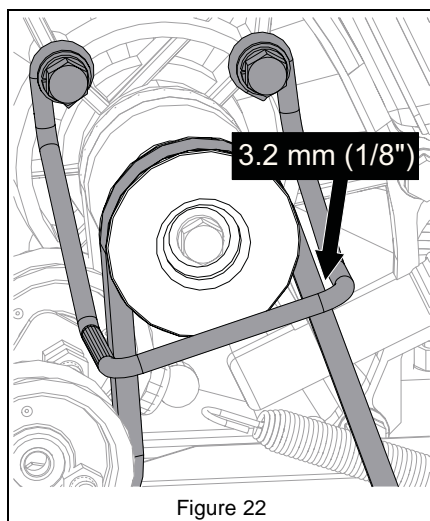

Figure 22
- Engage attachment clutch lever and make sure belt finger located opposite belt idler is less than 3.2 mm (1/8") from belt, but not touching the belt. See Figure 22.